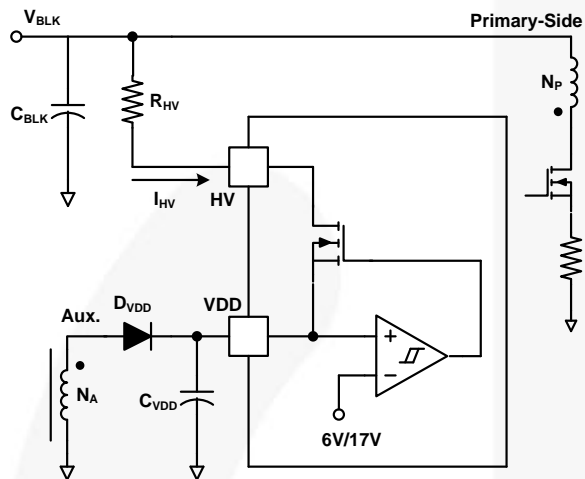
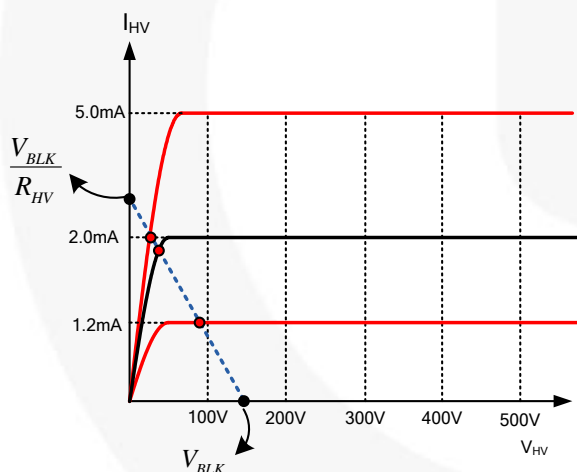

Figure 31. HV Startup Circuit
Figure 32. V-I Characteristic of HV Pin
Figure 31 shows the high-voltage (HV) startup circuit for FAN501 applications. The JFET is used to internally implement the high-voltage current source (see Figure 32 for characteristics). Technically, the HV pin can be directly connected to voltage (V_{BLK}) on an input bulk capacitor. To improve reliability and surge immunity, however, it is typical to use a ~ 100 k Ω resistor between the HV pin and bulk capacitor voltage. The actual HV current with a given bulk capacitor voltage and startup resistor is determined by the intersection of V-I characteristics line and load line, as shown in Figure 32.